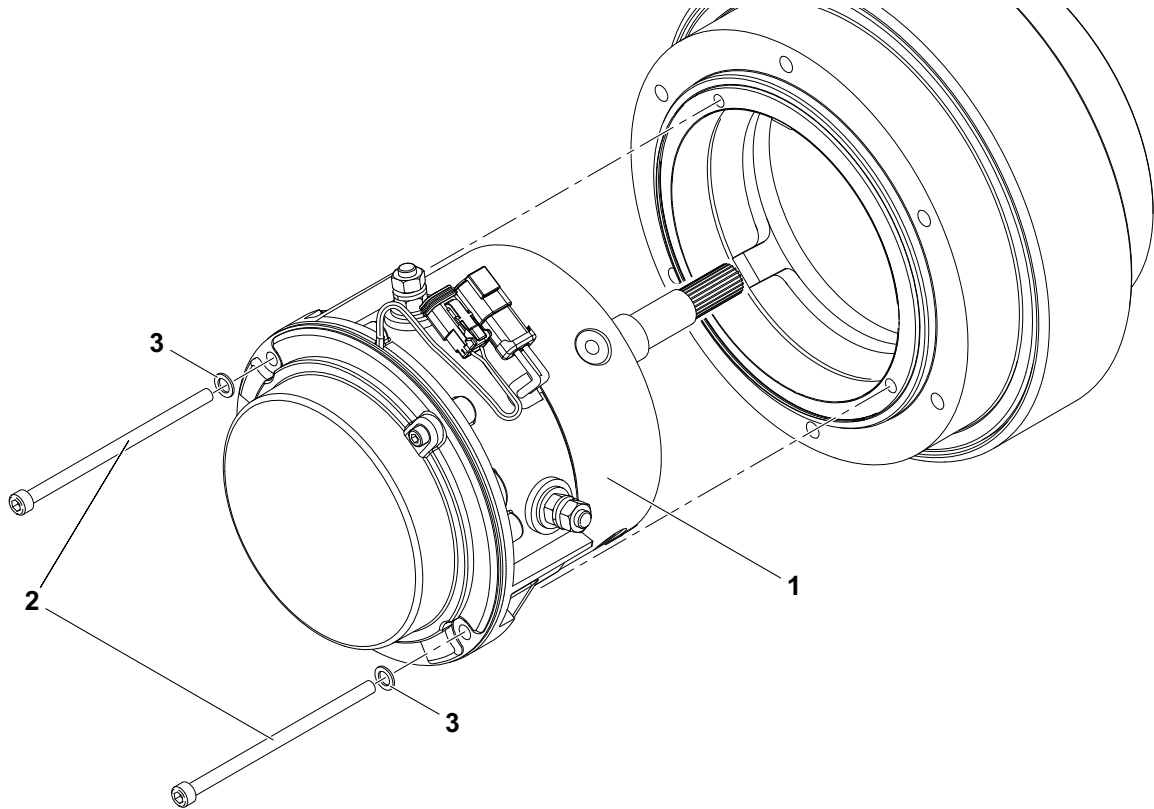

Figure 3-24. Electric Drive Motor Removal
1. Remove the two Cover Plate Mounting Screws (14) holding the Cover Plate (13) in place and remove the cover plate from the motor.
2. Remove the Brake Cover Mounting Screws (15) holding the Brake (11) in place and set aside. These screws are used to manually release the brakes.
3. Remove the two Terminal Cover Mounting Screws (16). Slide the strain relief of the Wire Harness (1) out of the cover and remove the cover from the motor.
4. Discard the Gasket (12) that was located under the brake and terminal covers.
6. Install the two Brake Cover Mounting Screws (15) into the threaded holes in the brake assembly and tighten to manually release the brakes (see Figure 3-24.).
8. Remove the screws holding the Commutator End Head (9) in place and remove the commutator end head from the frame and field assembly. The Armature (2) will be attached to the commutator end head.
9. Pull back the Brush Springs (4) in the commutator end head, pull the brush back and rest the springs on the side of the brush. The brushes should move freely within the holders.
11. Remove the Snap Ring (7) and Bearing (8) from the commutator end head. Discard the bearing.